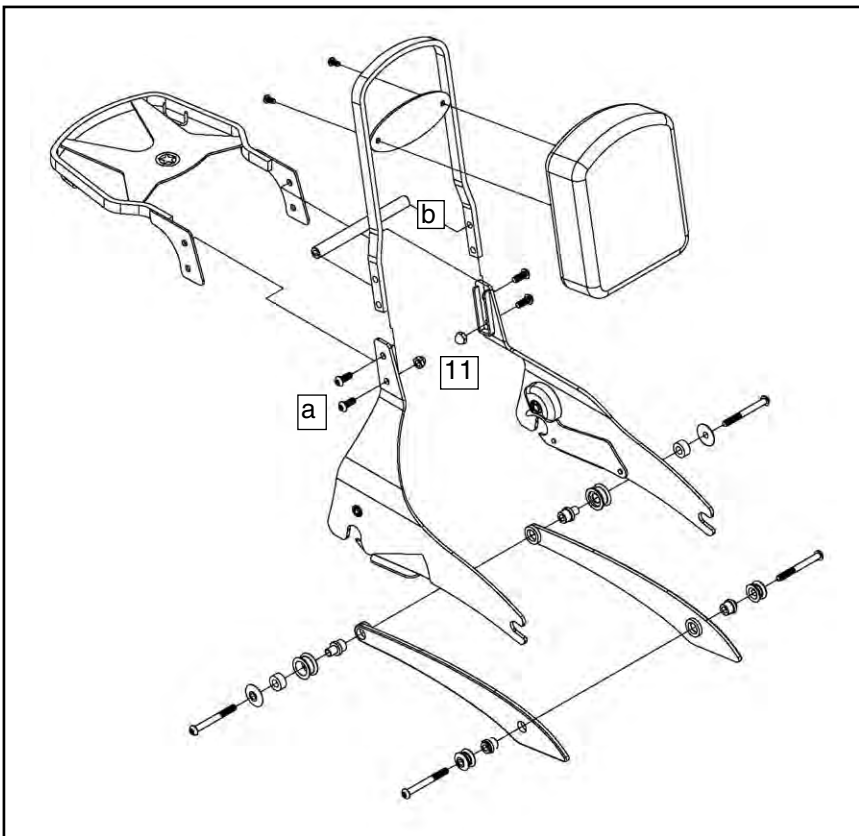

Figure 3
1. Assemble Side Plates (1) and (2) to the Paladin Backrest alone or with the Paladin Luggage Rack. **(5mm Hex Wrench) Figure 3**
2. Use the Button Head Screws (a) and the Support Stay (b) provided with the Backrest to complete assembly of the Side Plates. **(5mm Hex Wrench and 13mm Wrench) Figure 3**